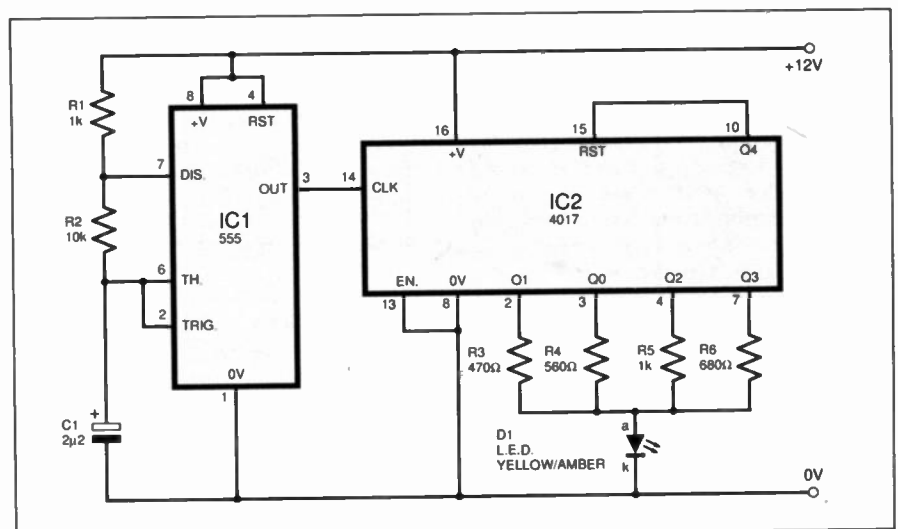

Fig.2. Circuit diagram for the Flame Effect.
**T**HE CIRCUIT of Fig. 2 is capable of driving a single l.e.d. to replicate the flickering effect of a fire or flame. It can be used to illuminate a trackside bonfire for a model railway, or to add interest to a decorative candle display for example.